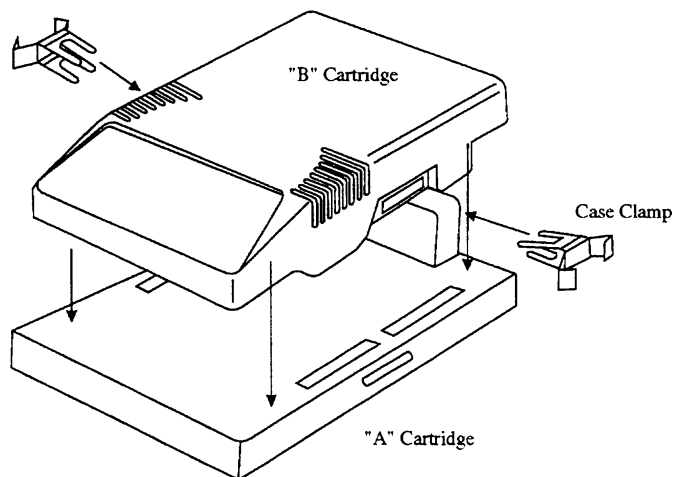

Figure 12 : Cartridge Separation
2. To remove the existing “B” cartridge from the “A” cartridge, pull the case clamps apart (see Figure 12). Carefully remove the old “B” cartridge and install the new “B” cartridge. Re-install the case clamps.